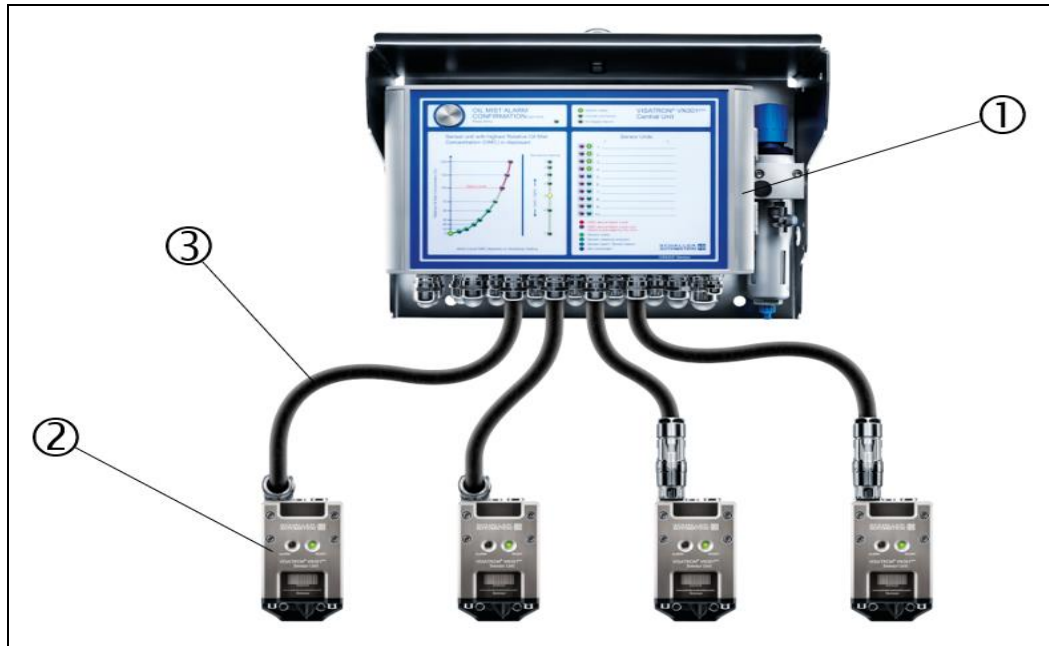

Fig.: 10 : Component overview, VISATRON® VN301plus
The central part of the oil mist detection system, as shown in Figures 10 and 11, is the sensor unit (2), which includes an optical measuring track under the end cover, and LEDs to display important information for the user under normal operating conditions. The central unit (1) is attached to the engine wall via a protective cover to protect it from vibration.
The oil mist detection system uses the *Venturi principle* to draw the oil mist atmosphere out of the crankcase. Detection uses decentralised measurement, i.e. a sensor unit is mounted at a defined position on each cylinder station. Monitoring is implemented via an optical measuring track in the housing of the sensor unit. The measurement data then reach the central unit via a hybrid cable (3) and are analysed by the central unit (1), as shown in Figures 10 and 11.